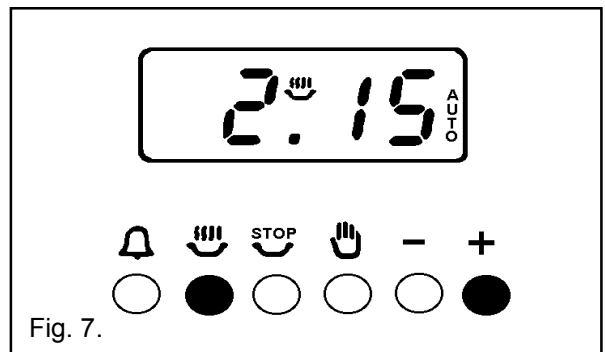

Fig. 7.
- iii) To set the length of cooking time, press the cooking hours button (🕒), press the increase control (+) until the cooking time is displayed, e.g. 2 hrs 15 mins. as Fig. 7.